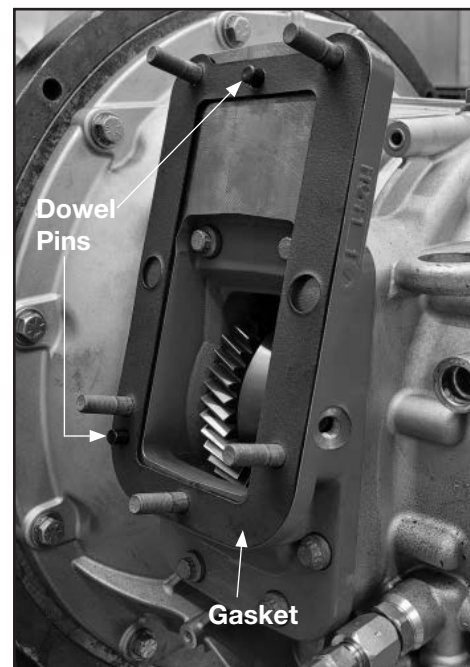

Figure 9
- a. Place dowels in the adapter mounting face holes. The holes are located at 7:00 and 12:00 (**Fig. 9**).
- b. Place the gasket over the dowel pins and studs (**Fig. 9**).